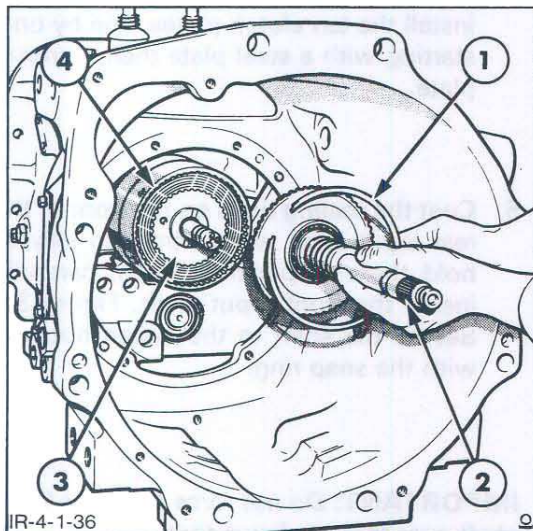

Figure 37
1. Remove the front input shaft and bearing assembly from the clutch housing by removing the snap ring, Figure 37.
2. Pull the forward clutch hub, along with the thrust washer, from the rear input shaft, Figure 37, then remove the forward clutch plates.
4. Place the clutch hub and thrust washer, Figure 37, on the rear input shaft, then install the ten clutch plates, one by one, starting with a steel plate then a bronze plate.
5. Coat the sealing rings on the front of the rear input shaft with petroleum jelly to hold them in position. Then, carefully install the front input shaft, Figure 37. Secure the shaft to the clutch housing with the snap ring.
IMPORTANT: Do not force the front input shaft over the rear input shaft, Figure 37. If difficulty is encountered, one of the sealing rings could have dropped out of position. If necessary, remove the front input shaft and reposition the sealing rings.